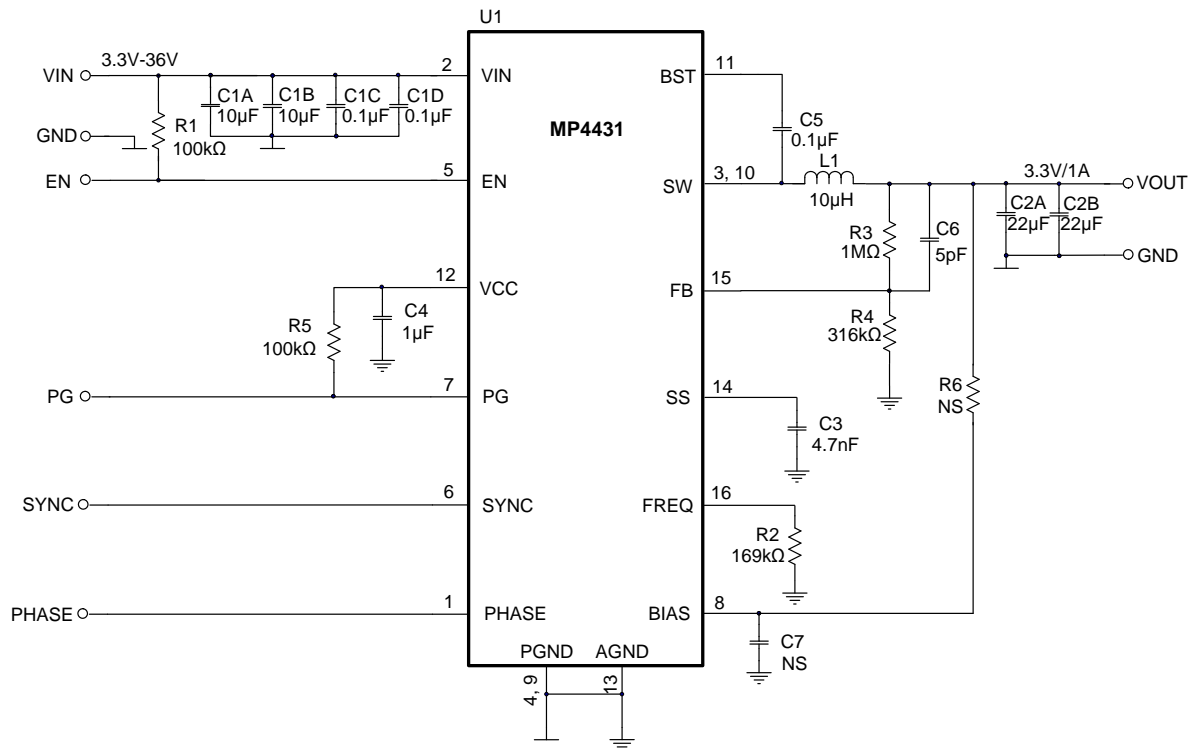

Figure 9: $V_{OUT} = 3.3V$, $I_{OUT} = 1A$, $F_{SW} = 500kHz$
- 6) The recommended PCB layout is based on Figure 9.